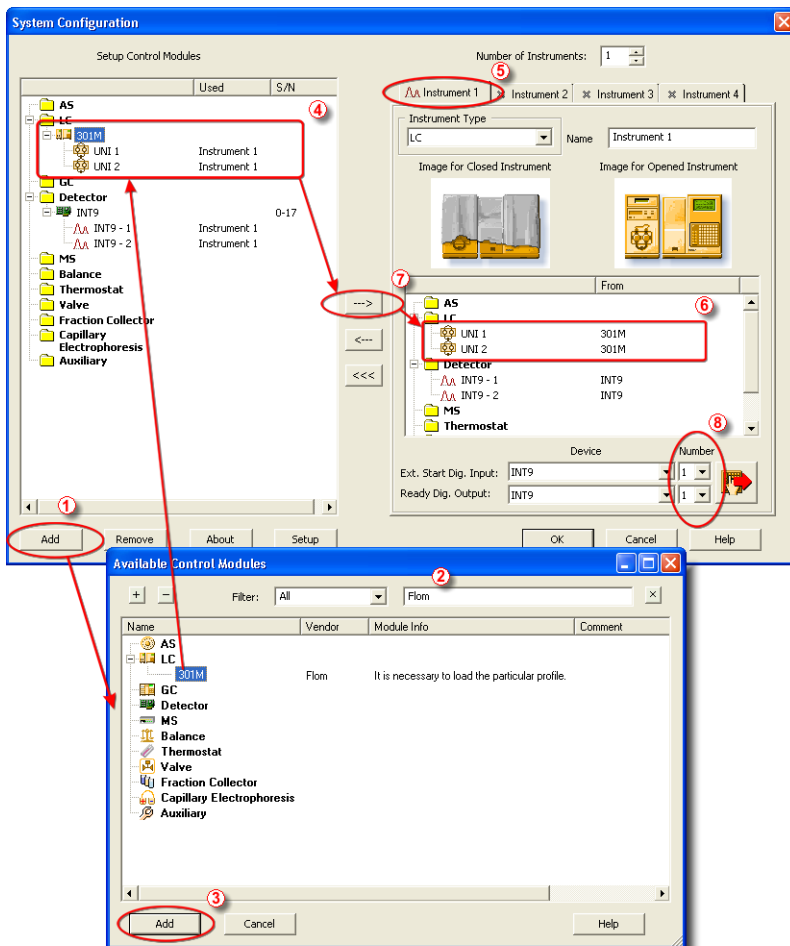

Fig 2: How to add Flom 301M pump
- Press the **Add** button ① (see Fig 2 on pg 6.) to invoke the **Available Control Modules** dialog.
- You can specify the searching filter ② to simplify the finding of the driver.
- Select the **301M** item and press the **Add** ③ button.